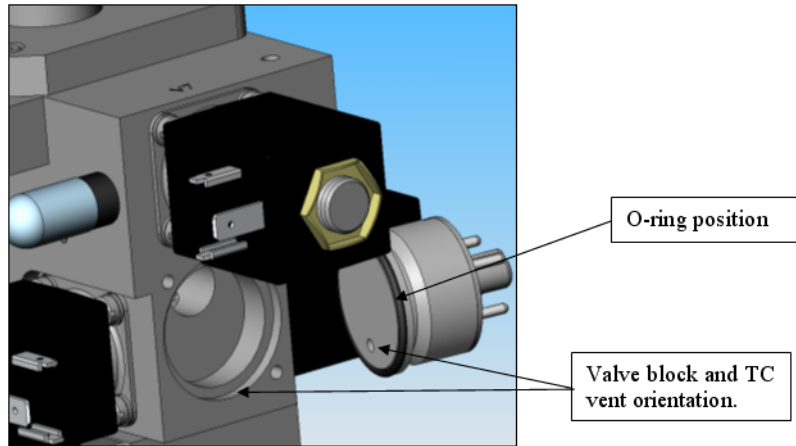

Figure 3: Thermocouple Gauge Orientation
- a. Disconnecting the octal connector from the TC gauge (Figure 3: Thermocouple Gauge Orientation).
- d. Installing the replacement TC Gauge: orientate the TC vent towards the base of the valve block (6 o'clock position) and loosely install existing hardware (Figure 3: Thermocouple Gauge Orientation).